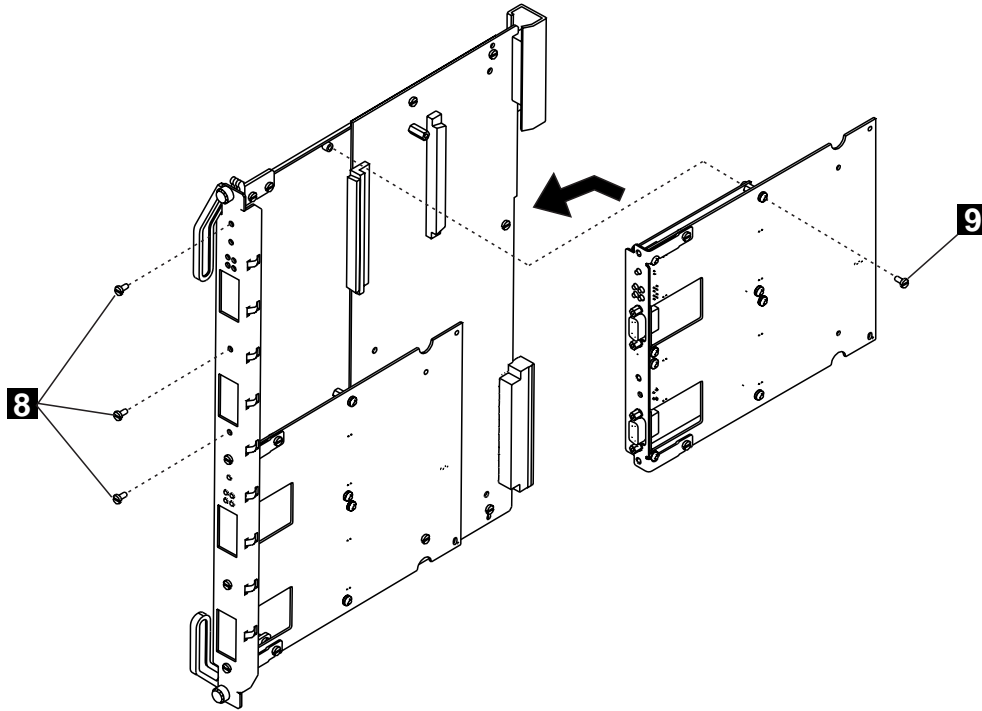

Figure 8. Reattaching the Motherboard
- **10** Reattach the motherboard to the module using the four screws (**8** and **9** in Figure 8) that you removed in Step 2 on page 10.